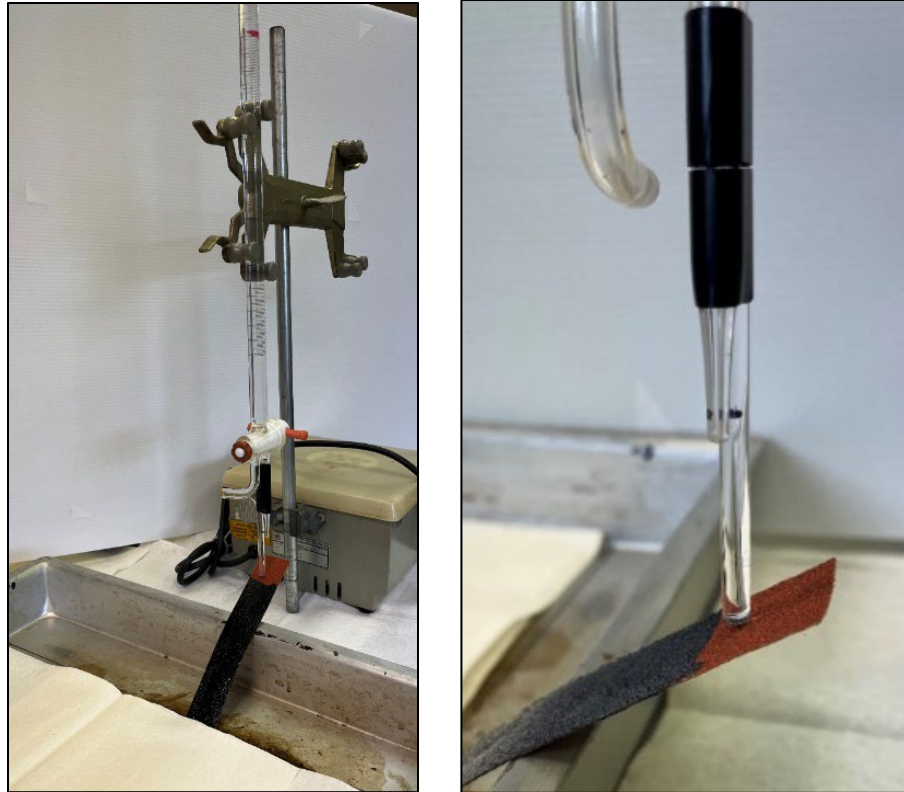

Figure 1: Water release device (left) and detail of burette tip and spacer bar (right)
- 5.3** Water Release Device, 100 mL titration burette with stopcock, able to measure to tolerance of ± 1 mL and that allows a discharge of 10 ± 0.5 mL of water at an average flow rate of 0.75 ± 0.16 ml/sec. Equipped with spacer bar (stir rod) to ensure consistent distance from the sample. (See Figure 1)